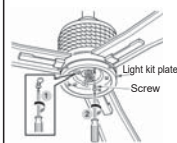

Fig.23
Step 3: Align the round hole of the light kit plate with light kit adapter,tighten the previously loosened and removed screws at step 1. (Fig. 23)